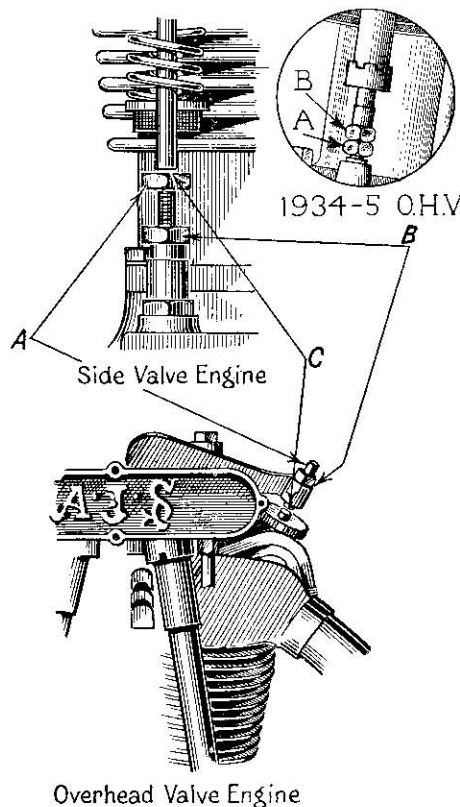

FIG. 49. VALVE CLEARANCE ADJUSTMENT (1932-3)
Valve Clearances. In order that the valves shall seat properly at all engine temperatures it is necessary that clearances should exist between the valve stems and the rocker studs or tappet heads, as the case may be, when the engine is warm. The clearance should be checked now and again with the feeler gauge on the magneto spanner, although it is unlikely that adjustment will be required unless the valves have been ground-in or the engine partly dismantled. In the case of a new engine, however, the clearances will increase until the engine has been thoroughly run-in. Fig. 49 illustrates the point where the clearance should exist (C) and the means of adjustment (A) on both S.V. and O.H.V. type engines. This clearance should, on the 1932–7 S.V. models (except the 1935–7 D.S. singles) be .004 in. and .006 in. in the case of the inlet and exhaust valves respectively with a *warm* engine. In the case of the 1935–7 singles with D.S. lubrication the correct inlet and exhaust valve clearances with a *warm* engine are .006 in., and .006 in. respectively. On all 1932–7 O.H.V. models the clearance recommended with the engine *cold* is the nearest approach to nil possible. To check and adjust clearances proceed as follows—
especially the exhaust valve, as well as loss of power. In the case of the the 1934-5 O.H.V. engines with mechanical lubrication the valve clearance adjusters are situated at the bottom of the push-rods, and to adjust the clearances it is necessary to telescope each push-rod cover, loosen lock-nut *B* (Fig. 49, inset) and adjust each hexagon *A*.